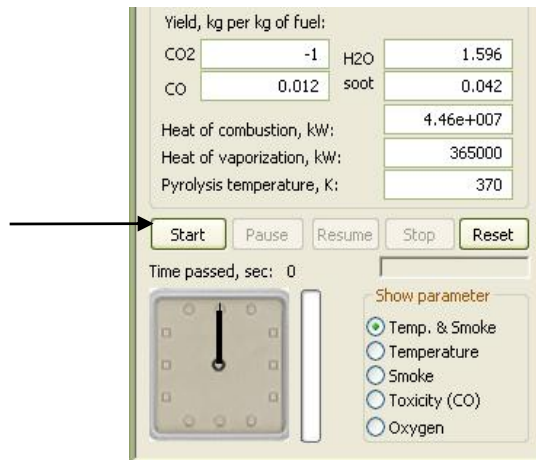

Figure 3.7 Start Button Location
Step 7: In the Fire Simulation popup (Figure 3.7), Click the *Start* button